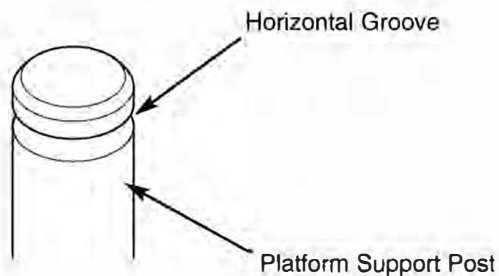

Fig. 8
2. Identify where the support post with a horizontal groove is situated (fig. 8).